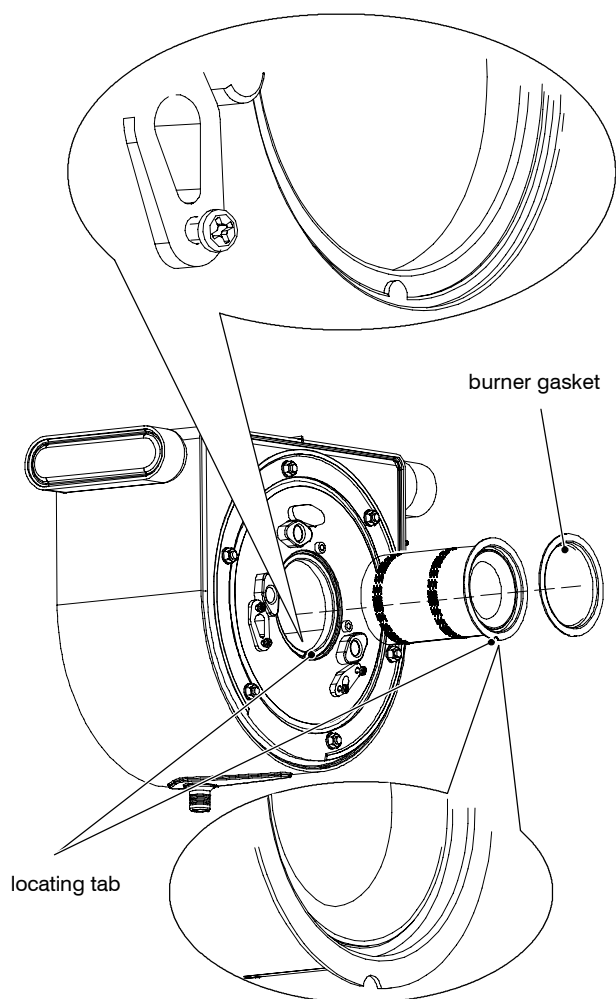

Fig. 18.4
- 3 Assemble the burner carrying out the removal operation in reverse order. Ensure the burner is correctly located by lining up the locating tab (Fig. 18.4).